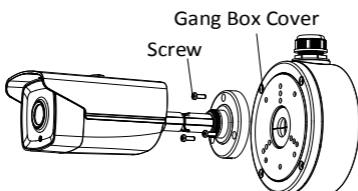

Figure 2-11 Fix the Camera with the Gang Box
2. Route the cables through the cable hole of gang box and fix the camera with the gang box cover with the supplied screws, as shown in Figure 2-11.